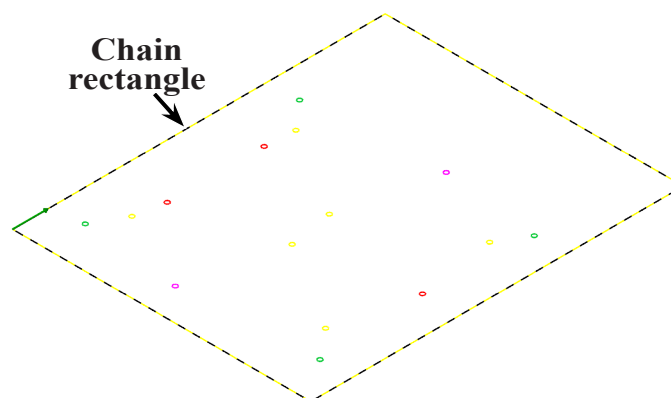

Fig. 12
Step 4. Click a **line of rectangle** to chain rectangle, **Fig. 12**.